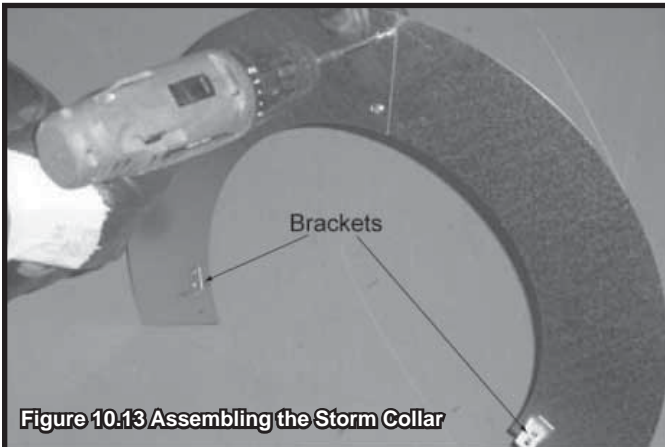

Figure 10.13 Assembling the Storm Collar
- Connect both halves of the storm collar with two screws (see Figure 10.13).